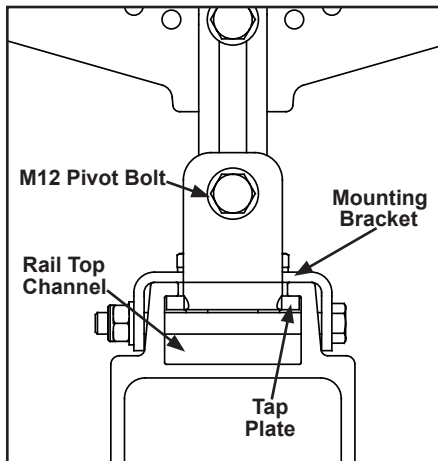

Figure 3-12
- Step 1. Remove cross bolts. Slide rail mounting bracket on top of bracket channel and tap plate into bracket channel at top of runway rail. Position per system layout. See Figures 3-12 through 3-14.